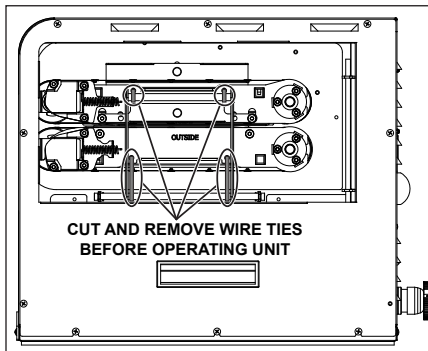

Figure 2. Remove Wire Ties
8. Unlock and open the side panel according to figure 2. Cut and remove the wire ties indicated in Figure 2.